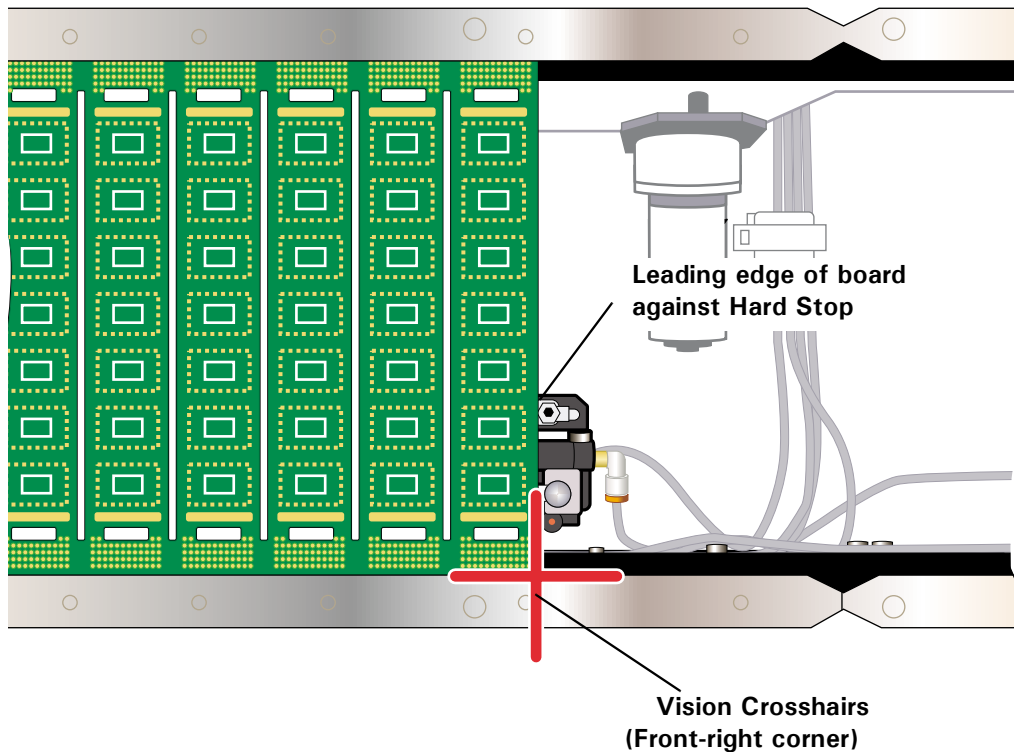

Figure 6-20
7. Using the trackball, align the intersection of the crosshairs with the front-right corner of the clamped board. See Figure 6-20.